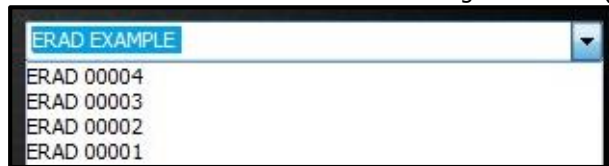

Figure 6.6-1: Select an E-RAD BLU
1. Select the E-RAD BLU Tool from which the Data Log came from (Figure 6.6-1).